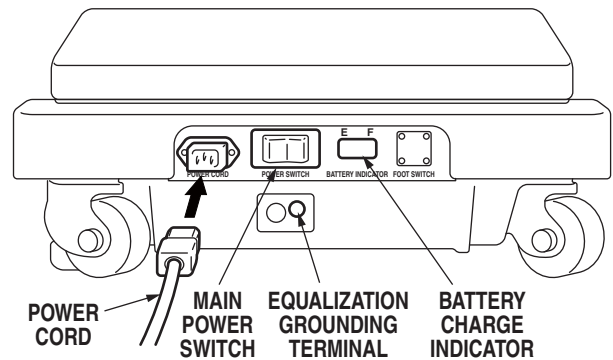

Figure 2-1. Electrical Panel
- a. Make sure the Power cord is securely attached to the table. To install the power cord, align the cord connector with the base connector, insert the cord into the connector until it locks in place. See figure 2-1. Plug the cord into a properly grounded, Hospital Grade, AC outlet. Make sure the power cord is routed to the outlet to prevent it from being in the way of operating personnel. To remove the power cord, and pull the cord connector out of the base connector.
a. Make sure the Main Power Switch indicator light, on the electrical panel, is OFF. See figure 2-1. If the indicator light is ON, turn AC operation OFF with the main power switch.